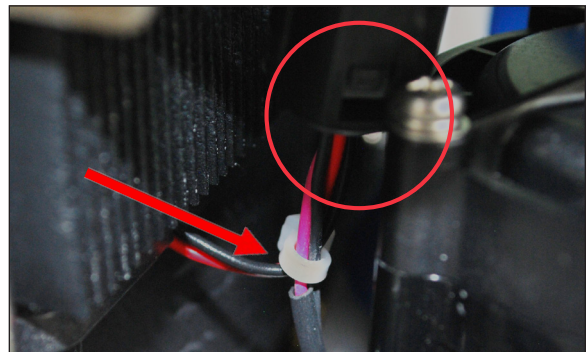

Figure 74 - Step 6 Wire tie below EMI suppressor
6. Slide the EMI suppressor up on the wires, and fasten the fan and pump wires together with a wire tie as close to the pump as possible but below the EMI suppressor (Figure 74). Use the wire cutters to remove the excess wire tie.